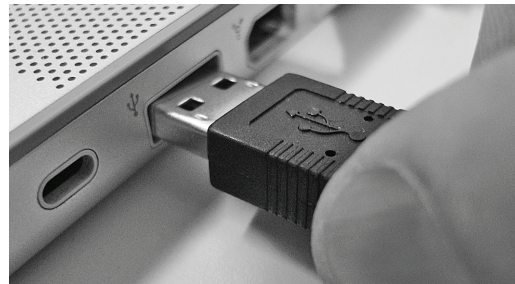

Figure 3-2: Connecting the 828mk3 to the computer via USB.
- 2 Plug the flat "type A" plug of the 828mk3 USB cable (included) into a USB2-equipped socket on the computer as shown below in Figure 3-2.
- 3 Plug the squared "type B" plug of the USB cable into the 828mk3 I/O as shown below in Figure 3-2.